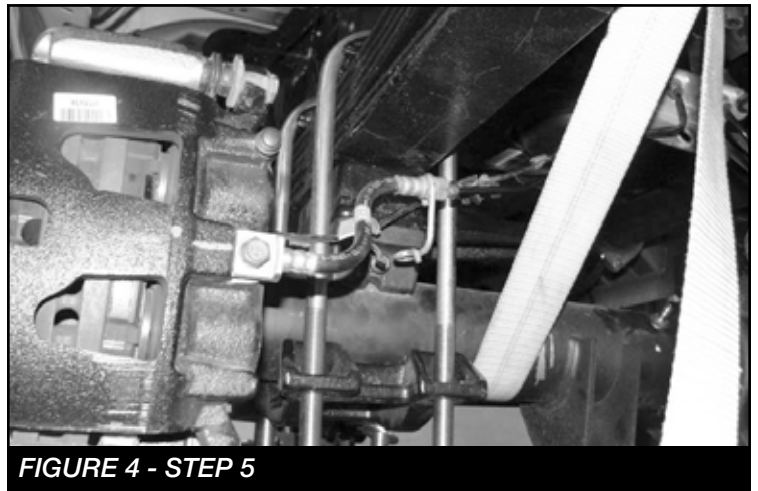

FIGURE 4 - STEP 5
5. Install the new leaf spring into the original spring location using the factory shackle and hanger bolts. Torque to 148 ft-lbs. Use the supplied u-bolts to secure the new leaf spring to the axle. **NOTE: The factory block will be reused in the factory location.** Torque the u-bolts to 179 ft-lbs. (SEE FIGURE 4 for 11-UP) & (FIGURE 5 for 08-10).